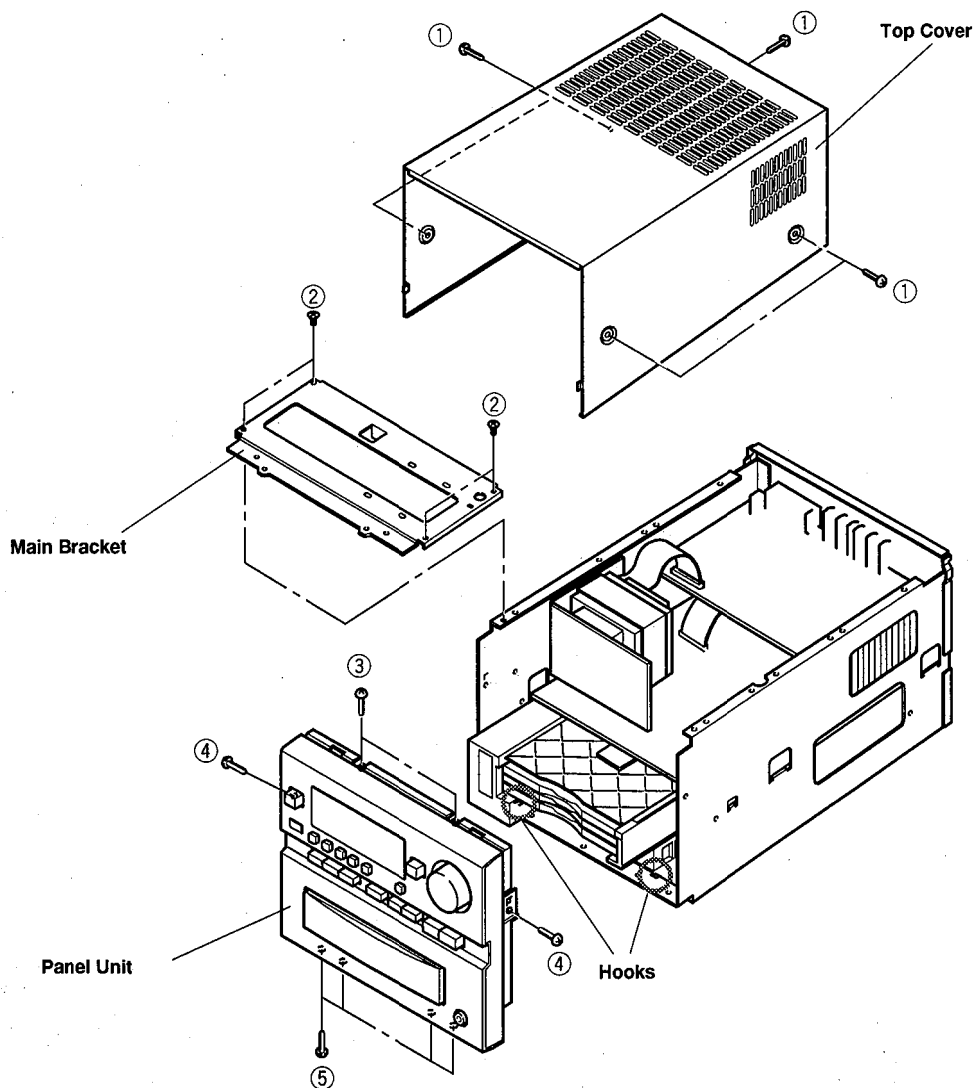

Fig. 1
Remove 5 screws (①) in Fig. 1.
- Remove 4 screws (②) and 2 screws (③), and then remove the Main Bracket in Fig. 1.
- Remove 2 screws (④) and 4 screws (⑤) in Fig. 1.
- Detach the Hooks and then remove the Panel Unit in Fig. 1.